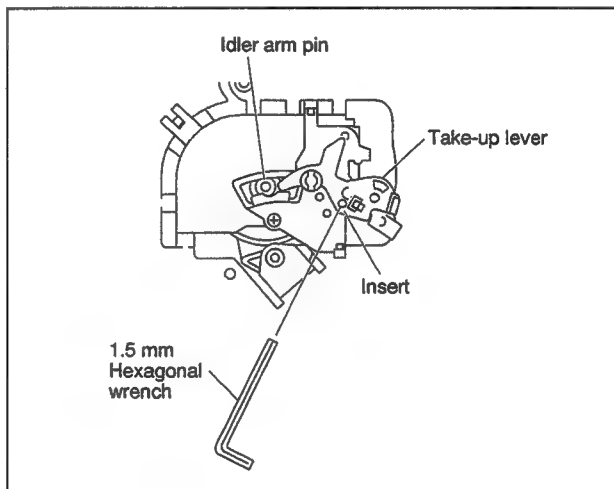
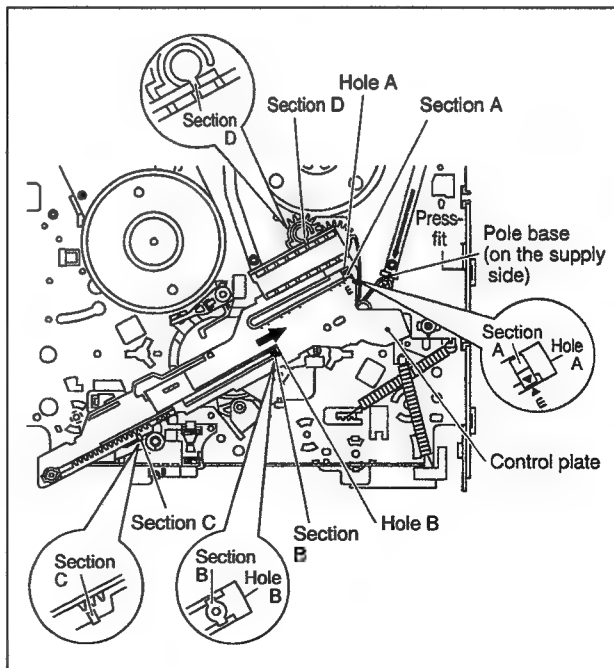

Fig. 2-2-24
Fig. 2-2-25
- (1) Adjust the position of the idler arm pin as indicated in Fig.2-2-24. (to the left of center of the R section)
- (2) Bring the positioning hole of the take-up lever into alignment with the hole at the control plate guide and fix the position by inserting a 1.5 mm hexagonal wrench.
- (3) Press-fit the pole base (on the supply side) as indicated by the arrow and install the control plate so that section A of the loading arm gear shaft fits into hole (A) of the control plate, section B of the control plate guide into hole (B), and the control plate comes under section C of the rotary encoder guide and section D of the loading arm (on the take-up side). Then slide the whole control plate in the arrow-indicated direction. (See Fig.2-2-25).
- (4) Make sure that the mark E of the control plate is in alignment with the mark ▼ of the loading arm gear shaft. (See Fig.2-2-25)
- (5) Pull off the hexagonal wrench for positioning.